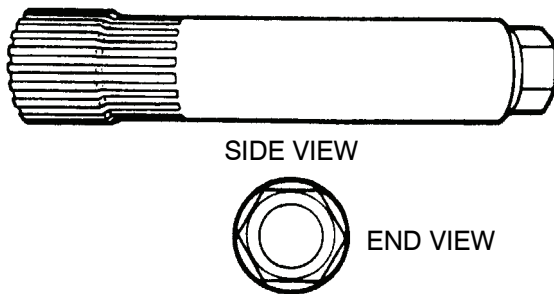

Figure 65.
- (4) Using a suitable socket and torque wrench, rotate differential nest while observing scale on torque wrench. Refer to Figure 65.